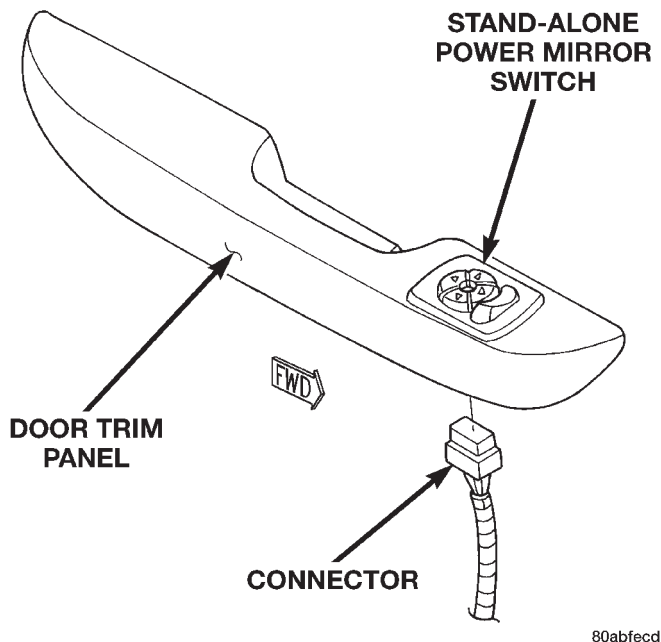

Fig. 4 Stand-Alone Power Mirror Switch Remove/Install
(1) Disconnect and isolate the battery negative cable.
(2) Using a trim stick or another suitable wide flat-bladed tool, gently pry around the perimeter edge of the switch to release the snap clips that secure the switch to the trim panel (Fig. 4).